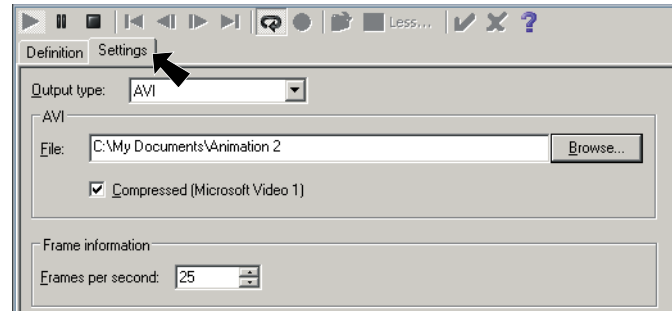

Fig. 36
Step 1. To save animation as a movie file (AVI), click the **Setting** tab in animation control panel, **Fig. 36**.